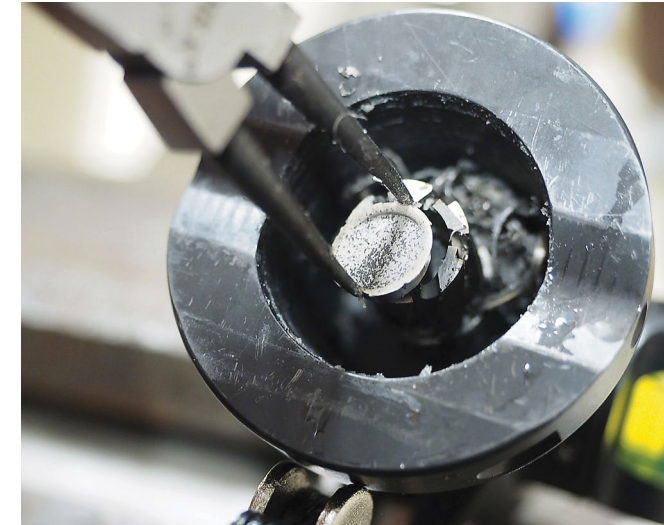

Fig 9.2 IMPORTANT! REMOVE the slug and shavings with pliers.
9.2 Inspect inside the cutter assembly for presence of a slug. If present, REMOVE the slug from the cutter with pliers (Fig 9.2).